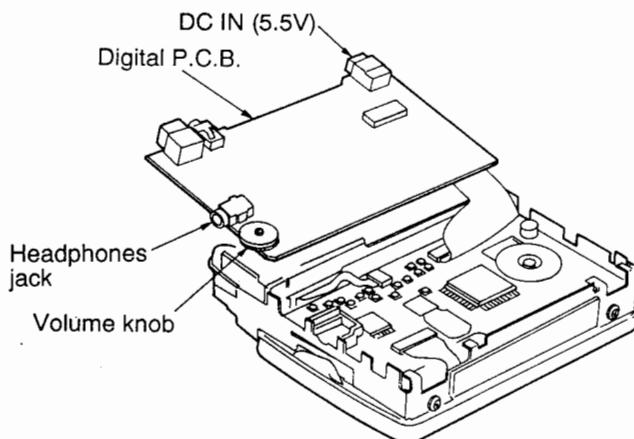

Fig. 1
2. Set the HOLD switch (S502) to the OFF position (See Fig. 1).